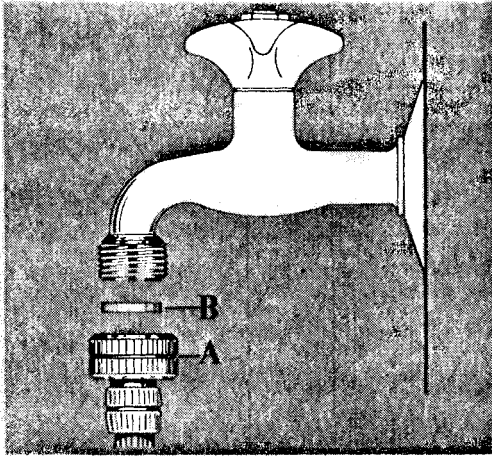

fig. 4
**Water inlet hose:** connect the water inlet hose to a cold water tap having a 3/4" gas thread spout or to a water tap having a quick-coupling connector, after fitting the rubber sealing washer B (fig. 4) supplied with the machine into the threaded locking ring A at the end of the water inlet hose.